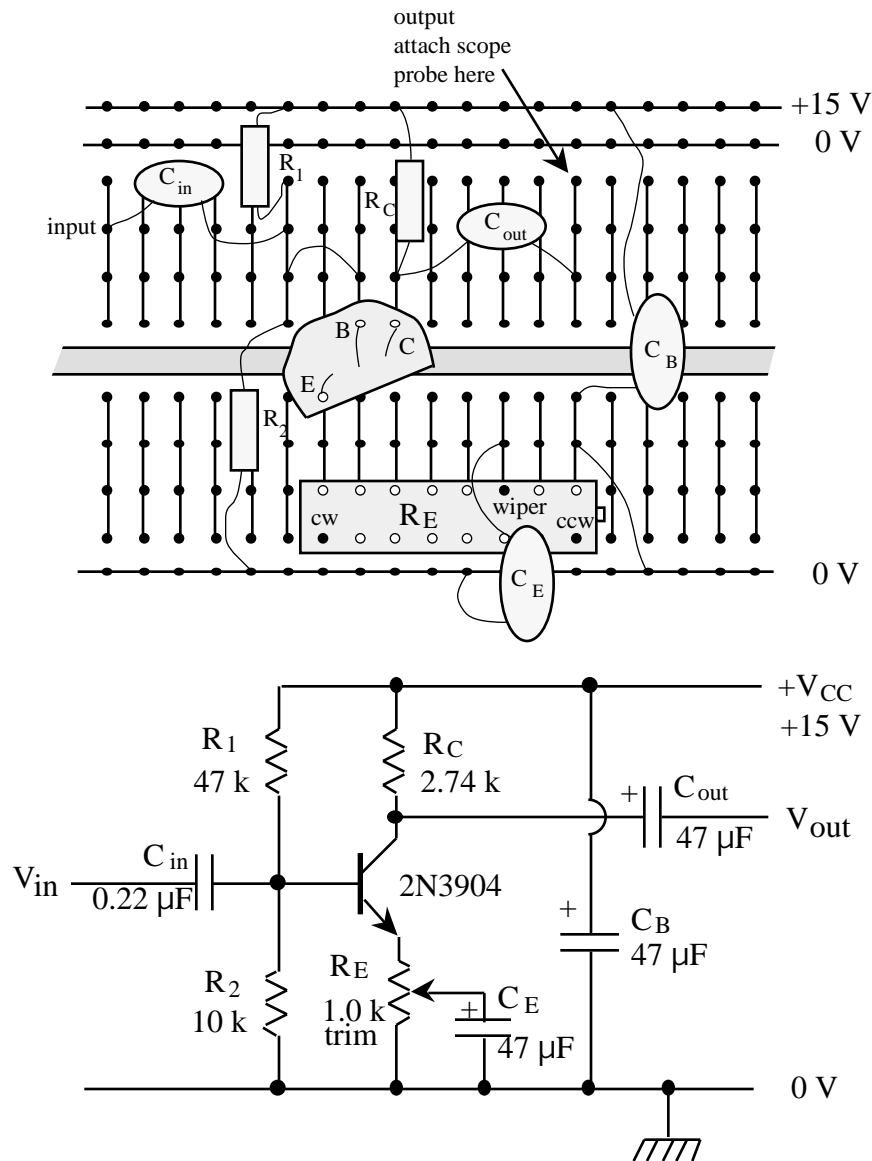

Figure 7.4 Common Emitter Stage Layout and Schematic
1. Calculate the quiescent voltages  $V_B$ ,  $V_E$ , and  $V_C$ , and the currents  $I_E$  and  $I_C$  for the common emitter circuit in Figure 7.4. How much power is dissipated in the transistor itself? Is the power safely below  $P_{max}$ ? (See Appendix for 2N3904 Data Sheet.)
2. Find the ac voltage gain of the circuit in Figure 7.4 for 10 kHz sine waves with the emitter bypass capacitor  $C_E$  removed. Estimate the maximum amplitude of the output before clipping occurs. (The maximum output voltage is limited by the positive supply voltage, and the minimum is determined by the requirement that the collector voltage must be at least a few tenths of a volt above the emitter voltage.)
3. The emitter bypass capacitor can provide an AC ground path for the emitter, increasing the gain of the amplifier at high frequency. Considering the effects of the intrinsic emitter resistance  $r_e$ , what is the maximum possible AC voltage gain of the amplifier in Figure 7.4? Will this gain likely be realized for 10 kHz sine waves? Why or why not?
4. What setting of the emitter trimpot is needed to give the required gain of  $-25$ ? For the single stage in Figure 7.4, what are the input and output impedances  $r_{in}$  and  $r_{out}$  at 10 kHz
In Figure 7.4 we show the first amplifier stage and a suggested circuit board layout. Your circuit will be easier to understand if you try to keep the physical layout looking like the schematic diagram. Use the wiring color code given in Experiment #4.
The first step is to construct the bias network and check that the correct dc levels (quiescent voltages) are established. Assemble the common emitter stage as shown in Figure 7.4, but without the input and output coupling capacitors or the emitter capacitor (without  $C_{in}$ ,  $C_{out}$ , and  $C_E$ ). The wiper contact on the emitter resistor  $R_E$  should not be connected to anything yet. Measure the resistors before putting them in the circuit, and if they differ from the values used in your calculations, recalculate the quiescent voltages. Before turning on the power, disconnect the power supply from the circuit board for a moment and check that it is set to +15 V. Then turn on the power, and check the dc levels  $V_B$  (at the transistor base),  $V_E$  (at the emitter) and  $V_C$  (at the collector).